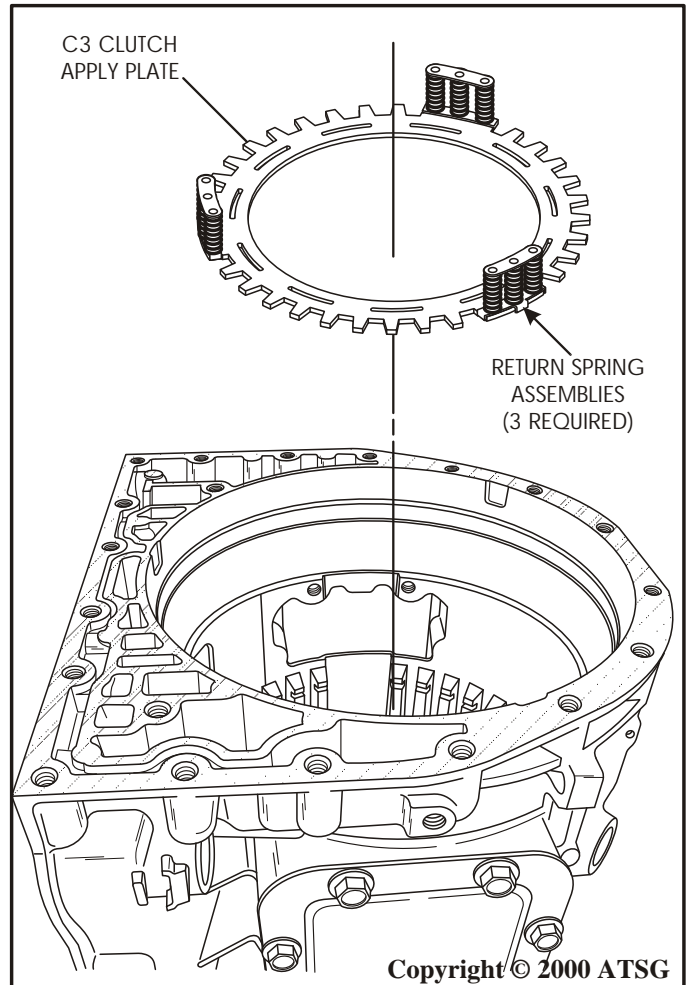

Figure 78
4. Install the three return spring assemblies onto the wide tabs of C3 apply plate and install the apply plate assembly on top of the piston, as shown in Figure 78.